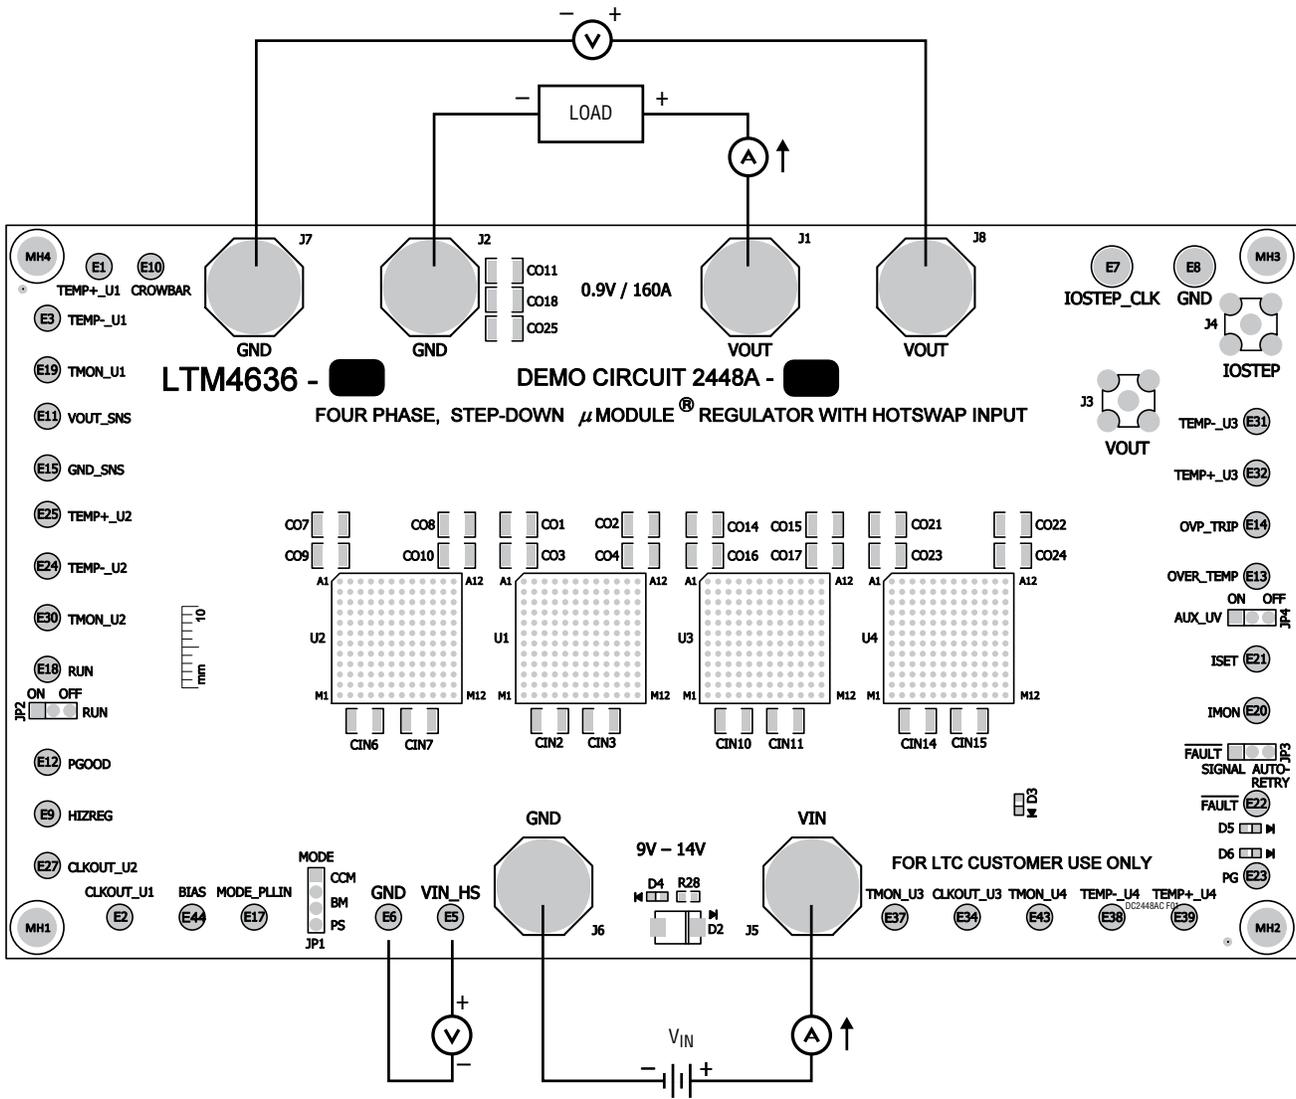

Figure 1. Measurement Setup of DC2448A-C
Demonstration circuit DC2448A-C is an easy way to evaluate the performance of PolyPhase operation of the LTM4636EY. Due to the high input/output current, the user should select the proper input supply/load/cable which can sustain the full load operation. Please refer to Figure 1 for proper measurement equipment setup and follow the procedure below:
- With power off, connect the input power supply, load and meters as shown in Figure 1. Preset the load to 0A and V_{IN} supply to 12V.